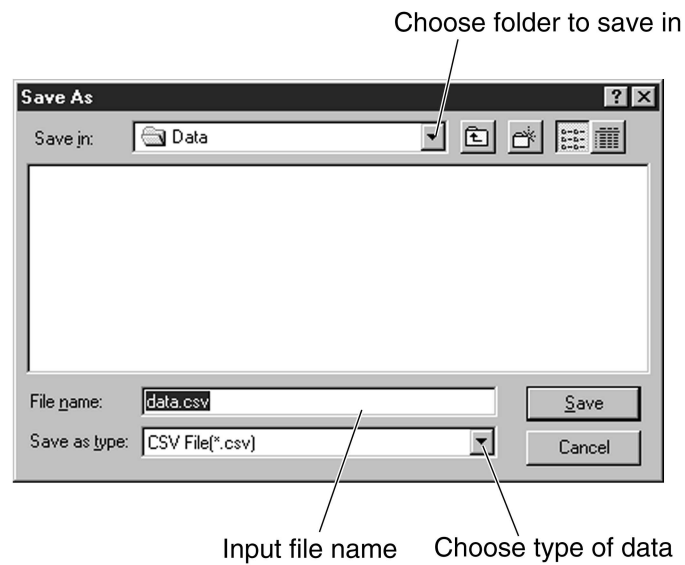

Fig. 15
2. Select the disk and folder where the data will be saved and specify its file name. (Fig. 15)
To cancel saving, click the **Cancel** button. (Fig. 15)